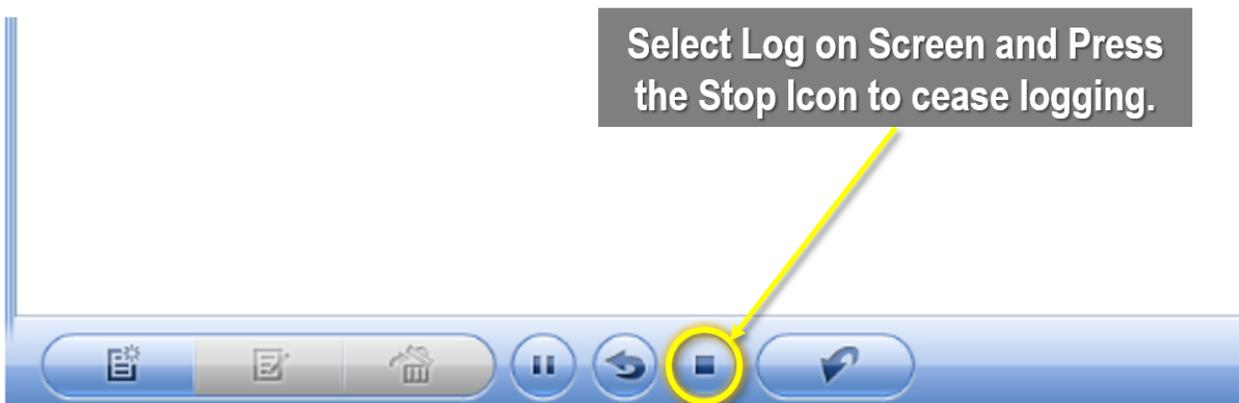

Figure 22. Select the Log File on the Screen and then select the "Stop" Button to Cease Logging
14. Select the log and click the **"Stop"** button at the bottom of the screen (**Figure 22**).